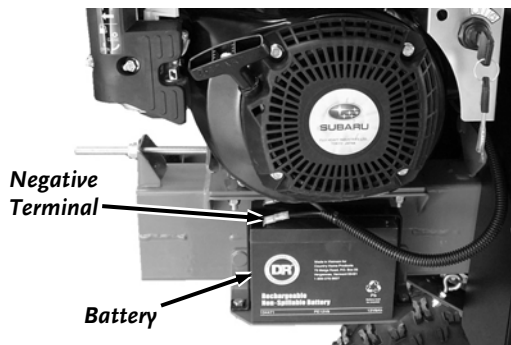

Figure 9
- Connect the Black Negative Terminal onto the negative Battery Lug (**Figure 9**).